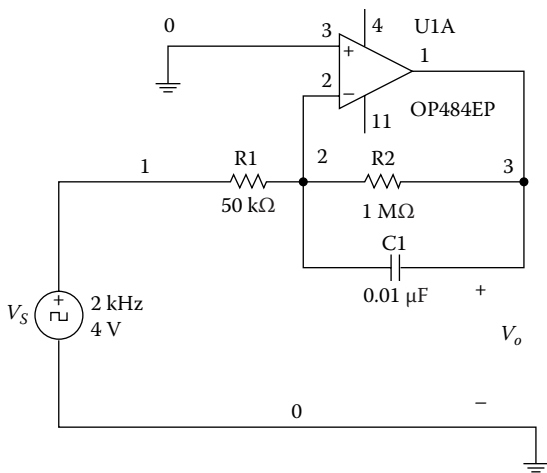

FIGURE P5.4
Problem 5.4 For Figure P5.4, (1) what will be the output waveform if the frequency of the input square waveform is 2 kHz? (2) Determine the peak-to-peak value of the output waveform when the frequency of the input waveform is (i) 4 kHz, (ii) 6 kHz, and (iii) 8 kHz. (3) Why does the peak-to-peak voltage of the output waveform decrease with increase in the input frequency?